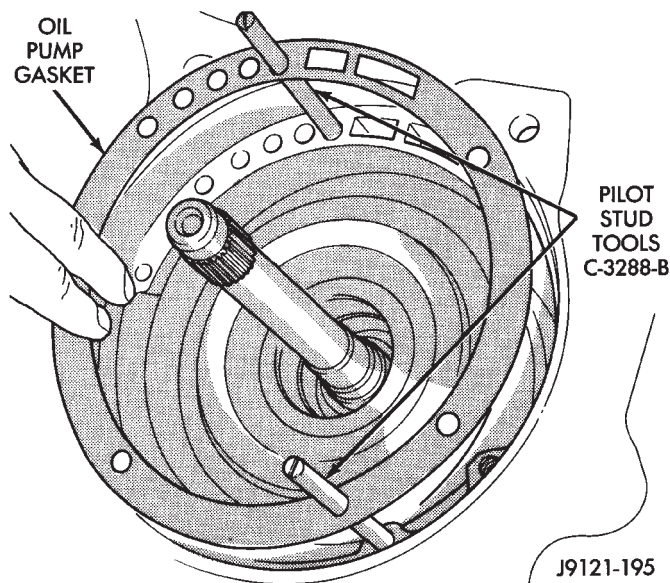

Fig. 131 Installing Pilot Studs And Oil Pump Gasket
(25) Thread two Pilot Stud Tools C-3288-B into bolt holes in oil pump bore flange (Fig. 131).
(26) Align and install oil pump gasket (Fig. 131).